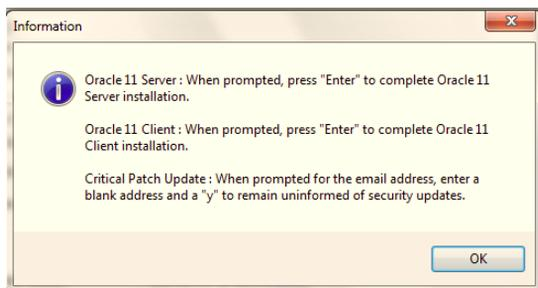

Figure 3. Oracle Information Dialog Box
9. An Information message dialog box (Figure 3) is displayed describing the actions to be taken in the following steps. Click **OK** to continue.
Perform the actions described in Figure 3.